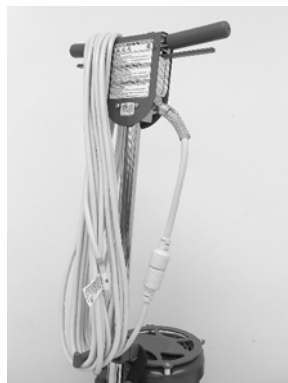

FIG. 8
3. When machine is not in use, neatly wrap the power cord around the handle and cord hook (Figure 8).